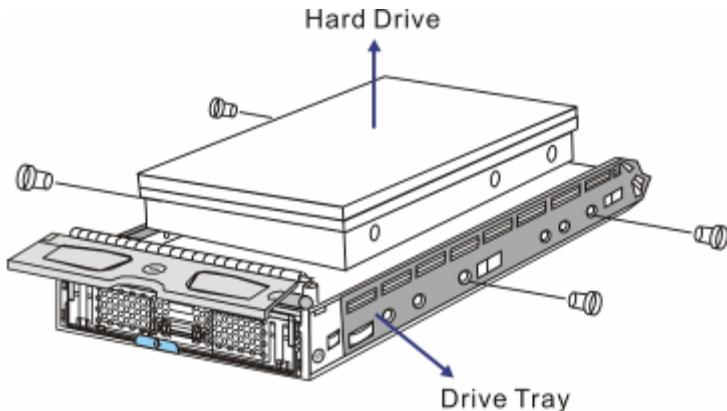

Figure 5-25: Removing the Hard Drive
- Step 5.** **Remove the four (4) retention screws** that secure the hard drive from the sides of the drive tray (two on each side). (See *Figure 5-25*)